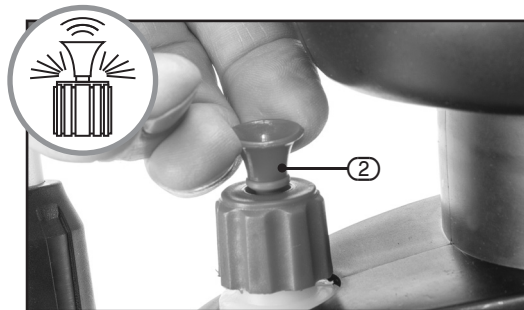

FIG.17
## 9.3 SAFETY PRESSURE VALVE – FIG. 17
– FIG. 17